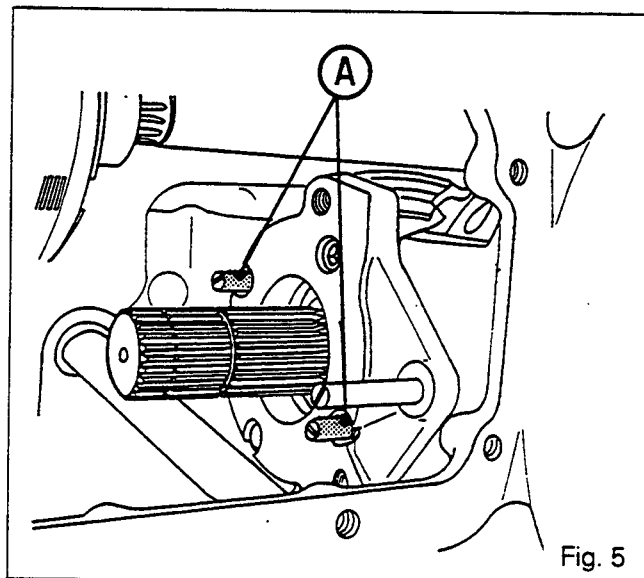
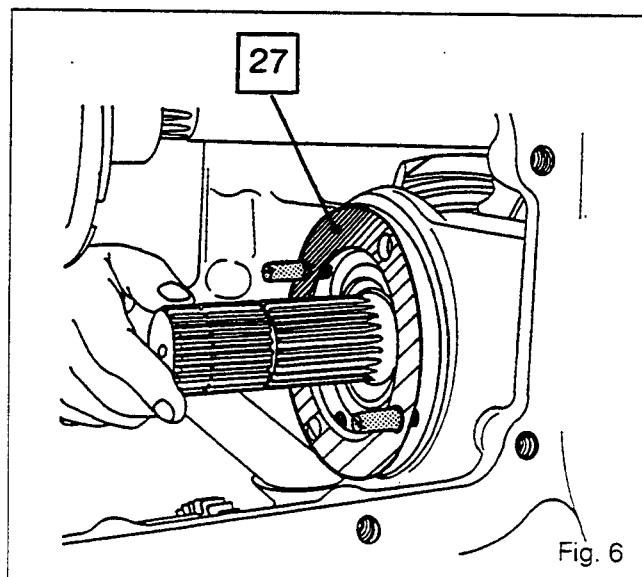

Fig. 5
Fig. 6
- 28. Remove two diametrically opposed screws (28) and screw in two guide studs (A) (Fig. 5). The purpose of this is to hold the shims [27] (Fig. 6).